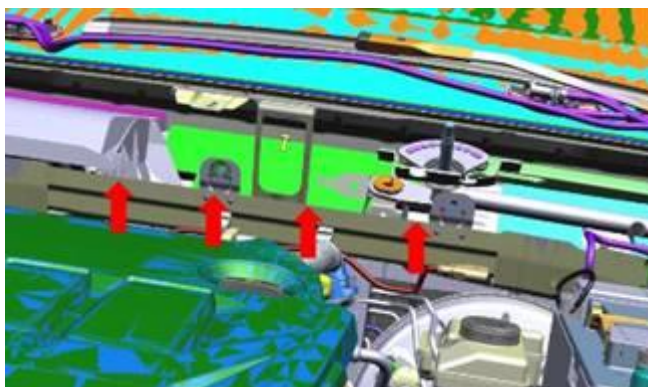

Figure 6. Body sealant application area of the plenum chamber bulkhead.
7. The red arrows in Figure 6 show the area of the plenum chamber bulkhead where body sealant will need to be applied. Clean this area with D 009 401 04 All Purpose cleaner or isopropyl alcohol.